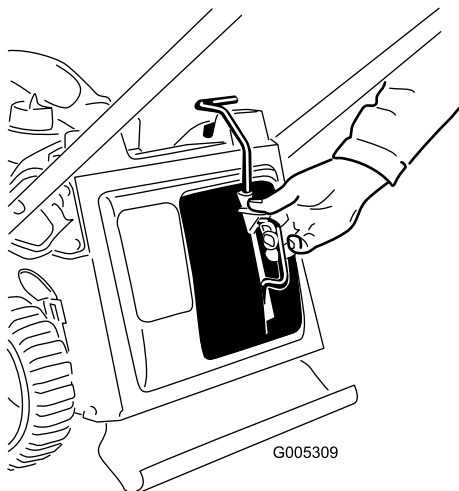

Figure 28
1. Remove the mulch plug (Figure 28).